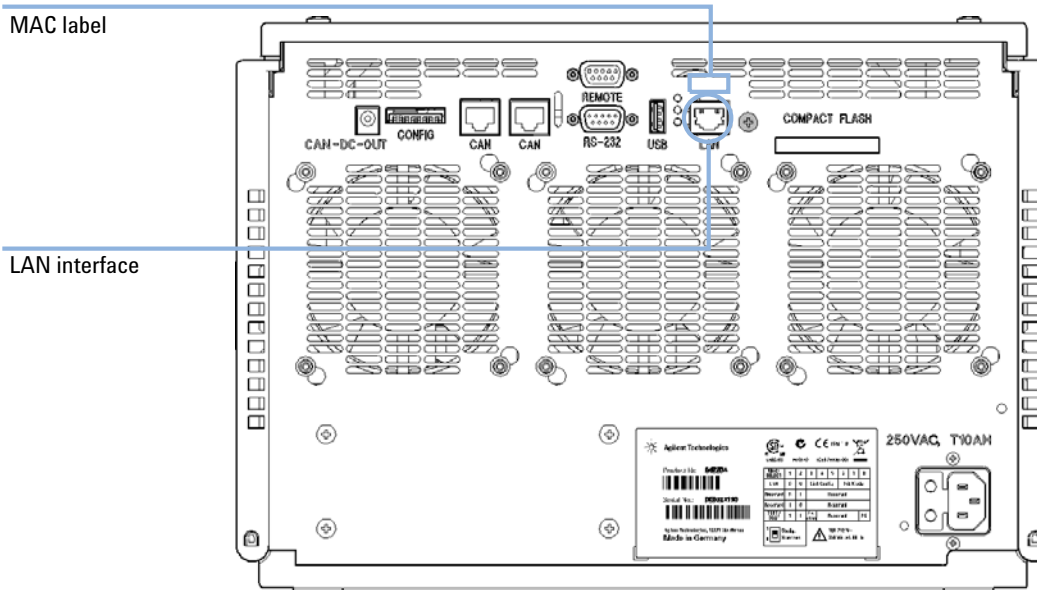

Figure 43 Location of LAN interfaces and MAC label
- 1 Note the MAC (Media Access Control) address for further reference. The MAC or hardware address of the LAN interfaces is a world wide unique identifier. No other network device will have the same hardware address. The MAC address can be found on a label at the rear of the module (see Figure 43 on page 263).
- 2 Connect the instrument's LAN interface (see Figure 43 on page 263) to